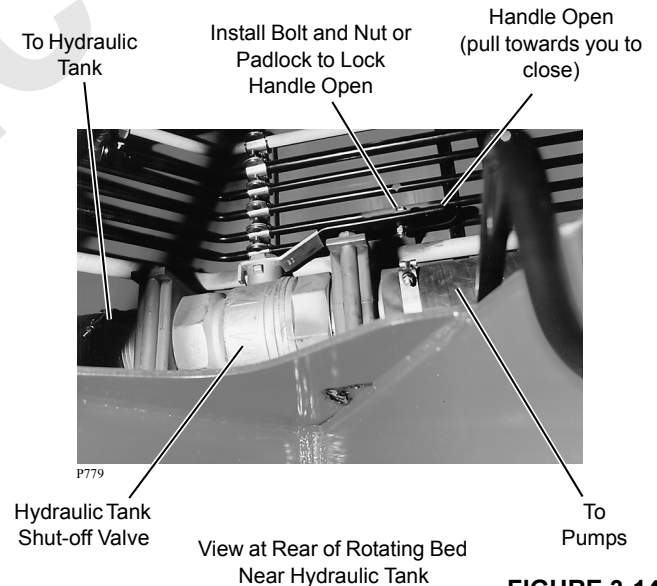

FIGURE 3-14
2. Open the hydraulic shut-off valve (Figure 3-14).